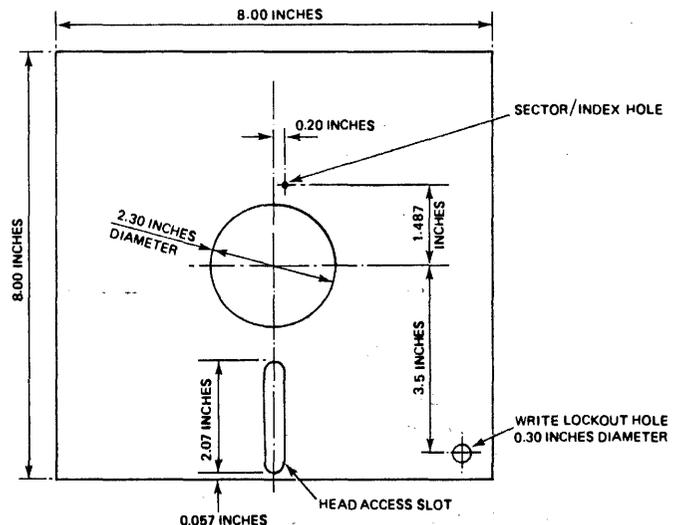

Figure 1-14. Jacket
Figure 1-14 illustrates the dimensions of the disk jacket. The inside of the jacket is covered with cleaning tissue to keep the disk clean.
4. Insert the disk into the drive, head access slot first, with the label away from the release bar (see figure 1-14 and 1-15).